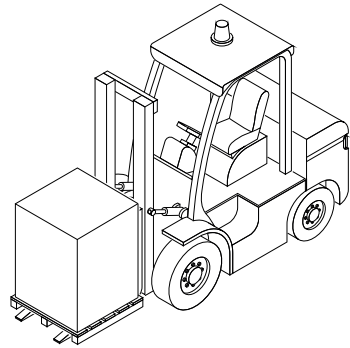

Fig. 4a
- Handle the packaged machine only with forklift truck or pallet trucks with forks (Fig. 4a).